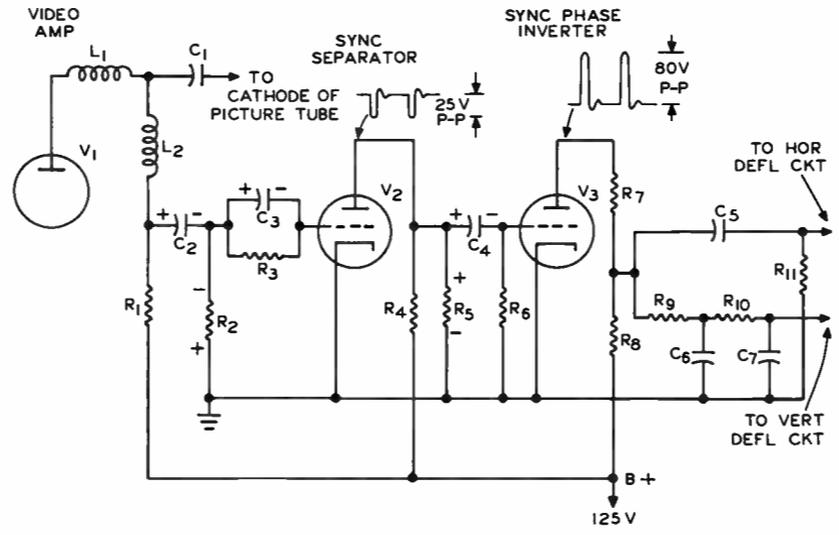

FIGURE 1
1. In the circuit of Figure 1, resistors  $R_9$  and  $R_{10}$  and capacitors  $C_6$  and  $C_7$  form an .....
1. In the circuit of Figure 1, resistors  $R_9$  and  $R_{10}$  and capacitors  $C_6$  and  $C_7$  form an **integrating network**.
In the circuit of Figure 1, the dual time constant network consisting of  $C_2R_2$  and  $C_3R_3$  (A) prevents the stripped sync pulses from affecting the output capacitance of  $V_1$ . (B) increases the frequency of the horizontal sync pulses. (C) separates the horizontal and vertical sync pulses. (D) prevents noise pulses from changing the bias on the sync separator.